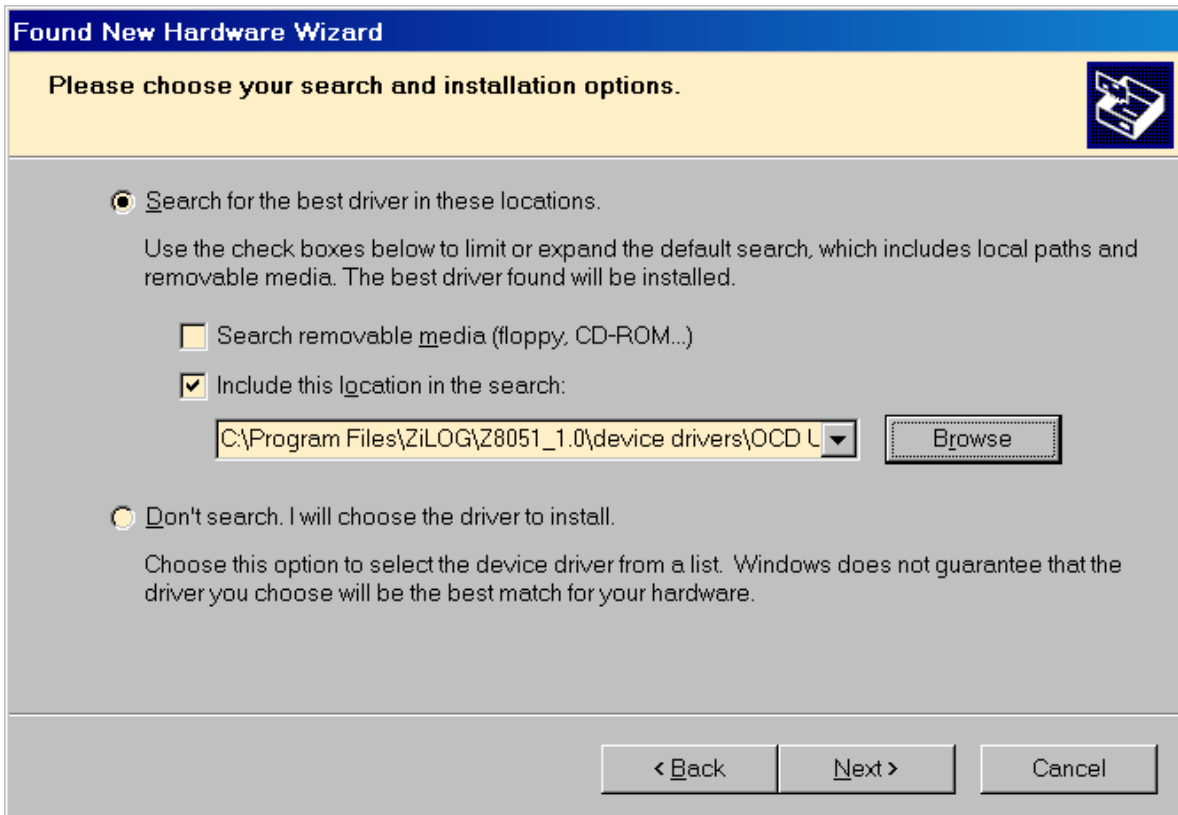

Figure 5. The Found New Hardware Wizard's Browse Screen
3. The next dialog box, shown in Figure 5, prompts you to enter a path or navigate to the directory in which the .inf file was installed. Depending on the type of computer you use (32-bit or 64-bit), use the **Browse** button to navigate to one of the following paths and click the **Next** button, leaving all other selections at their default settings.